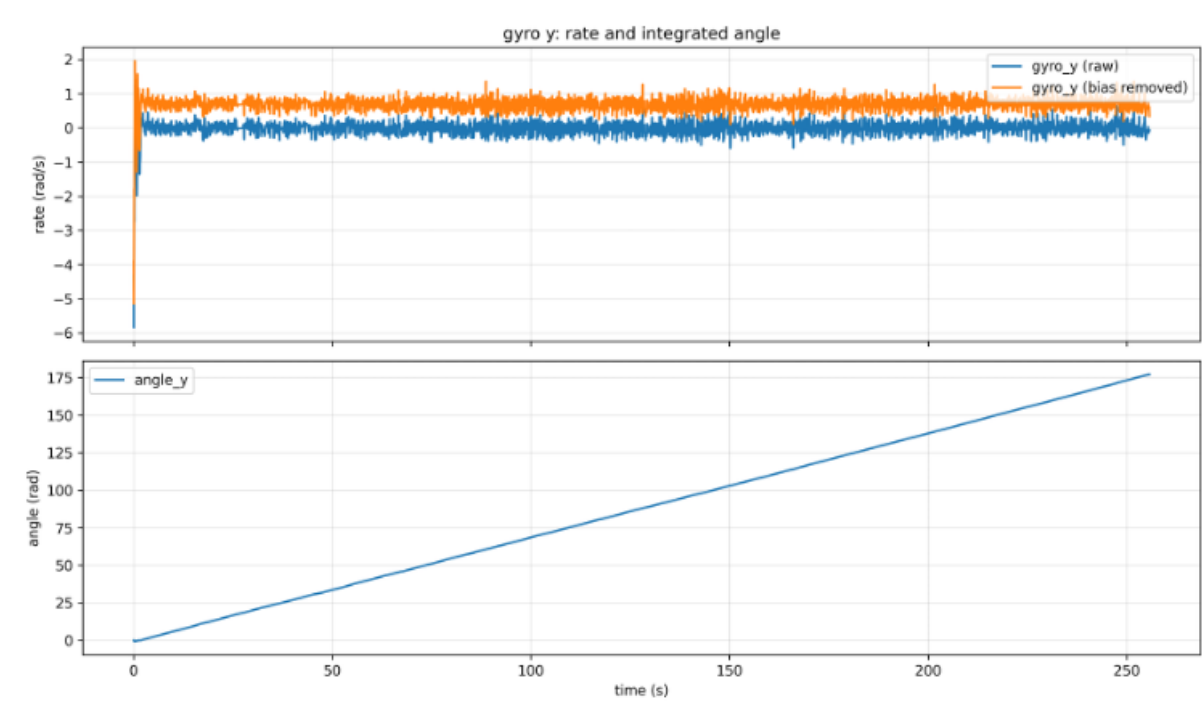

Figure 11: Gyroscope Y-axis: rotational rate and integrated rotation
**Task:** Plot rotational rate around Y and rotation from the gyro around Y (integrate once) on two subplots (Fig. 11).